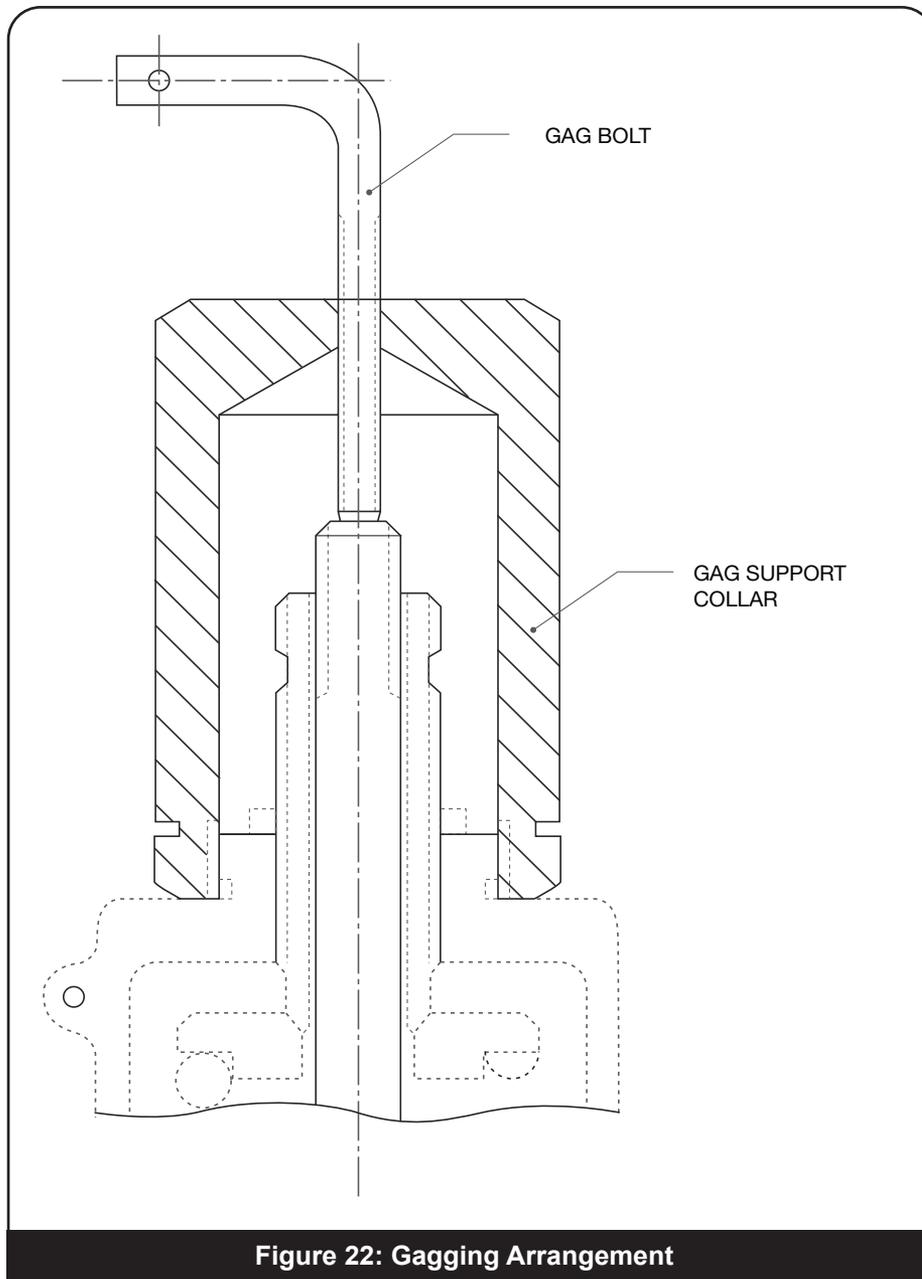

Figure 22: Gagging Arrangement
In the event that it becomes necessary to gag the valves during a hydrostatic test, it will be required to first remove the lifting lever cap arrangement. Referring to Figure 2, remove cotter pin and lever pin (38) and lifting lever (33). Unscrew the cap lock screw (39) and remove the cap (37). Install the gag cap and gag as shown in Figure 22. Gag assemblies can be furnished by Baker Hughes.